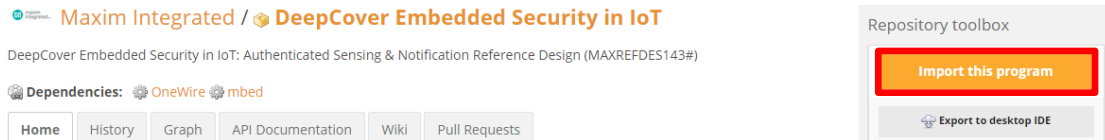

Figure 2. "Import this program" button.
2. Import latest revision of program into the online compiler by clicking on the **Import this program** button in the mbed repository page (Figure 2). A free mbed account is required to access the online compiler.